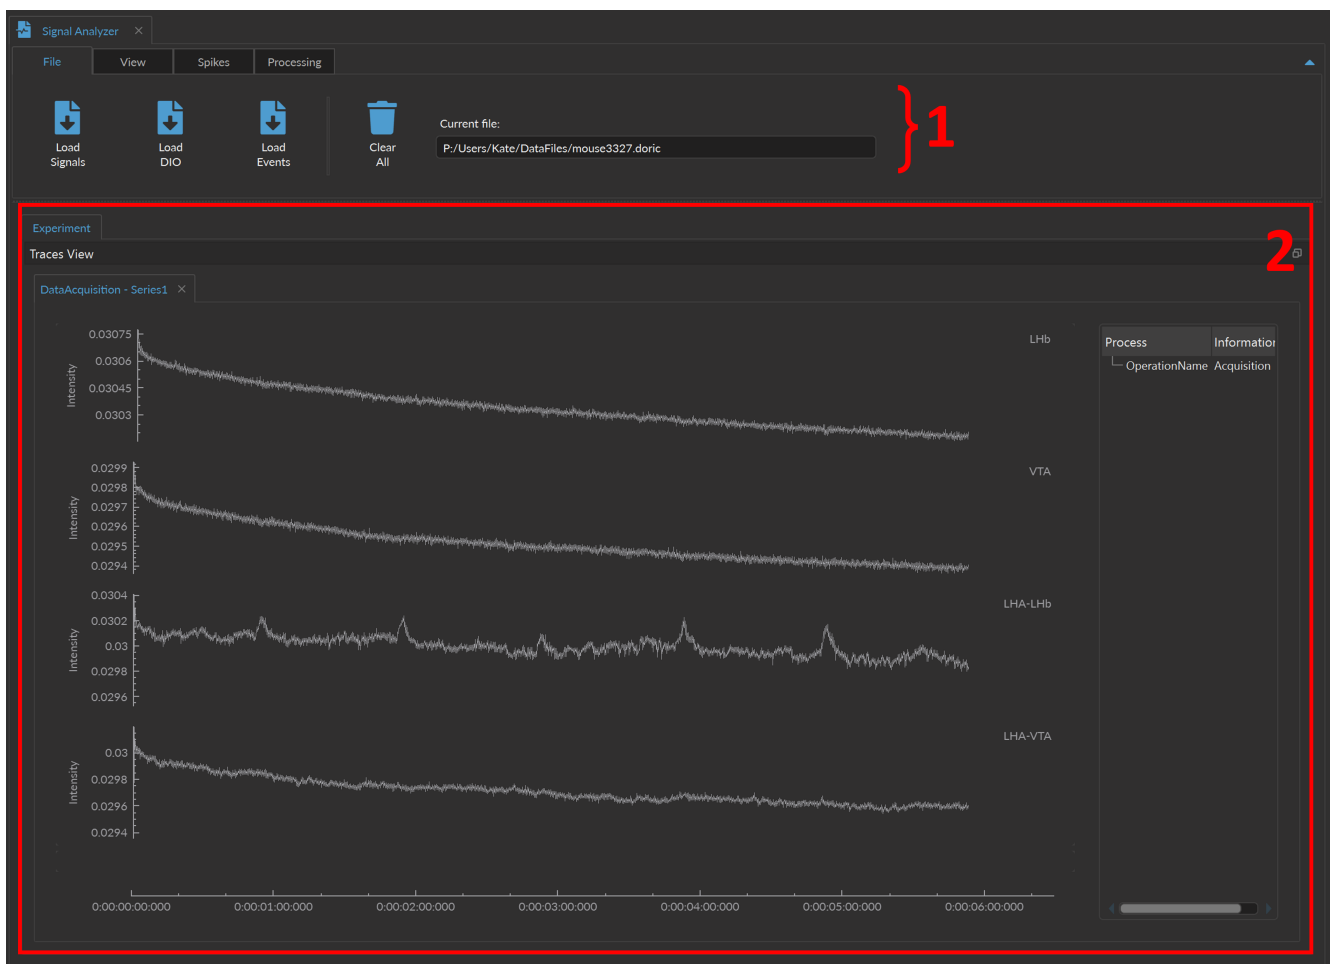

Figure 11.1: Signal Analyzer Module
The **Signal Analyzer module** (Fig 11.1) is separated into two main sections.
1. The **Control section** (Fig. 11.1, 1) contains all controls, separated into the **File**, **View**, **Spikes** and **Processing** tabs.
2. The **Trace View** (Fig. 11.1, 2) contains all currently displayed graphs as well as timestamped notes.